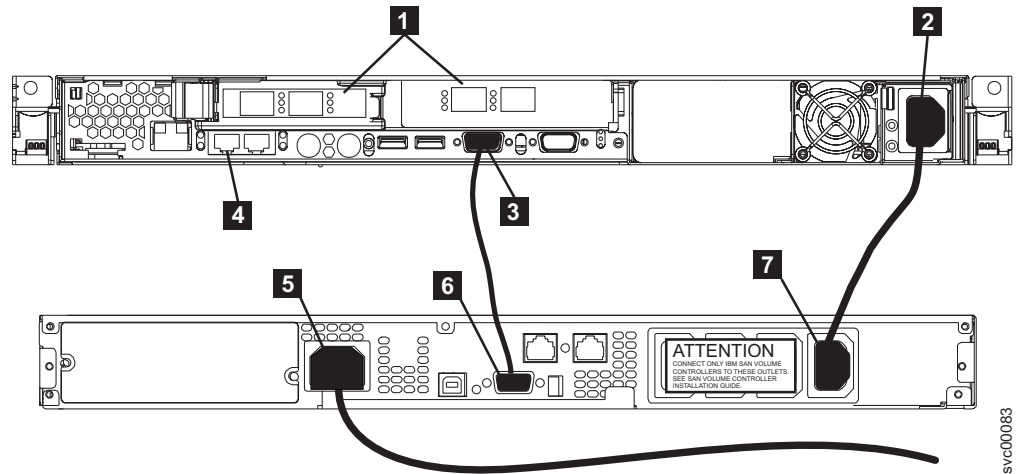

Figure 43. Connecting the SAN Volume Controller 2145-8F2 power cable to the 2145 UPS-1U
1. At the back of the SAN Volume Controller 2145-8F2 or the SAN Volume Controller 2145-8F4, plug the combined power and serial cable into the power connector **2**. See Figure 43 on page 49.